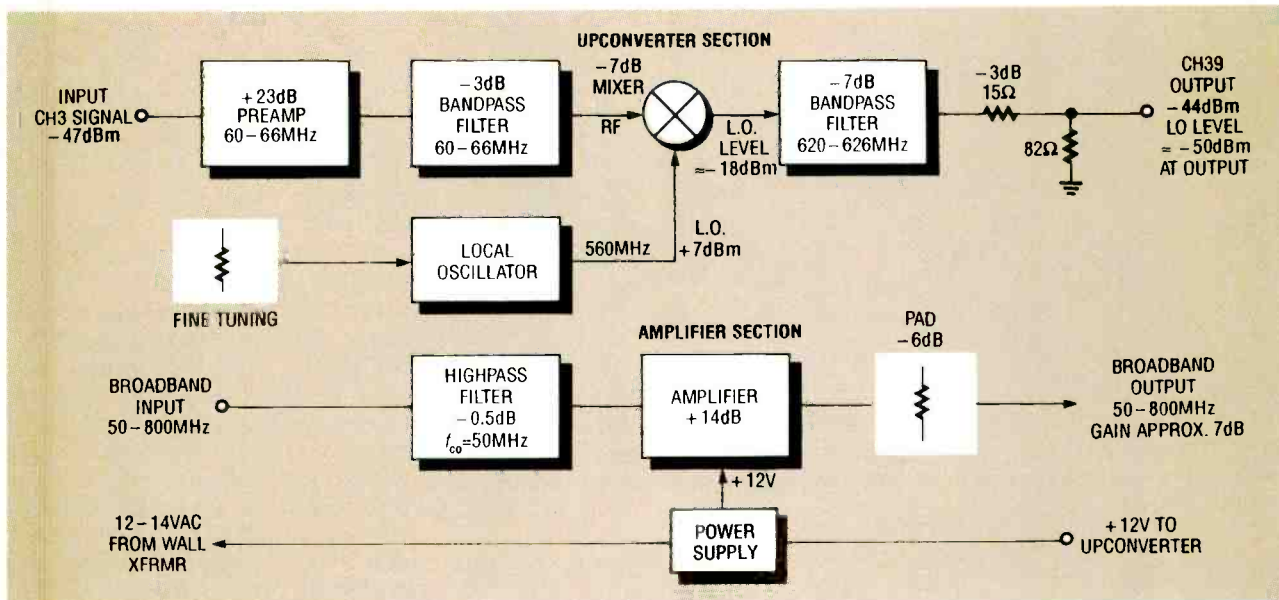

FIG. 2—BLOCK DIAGRAMS of an upconverter module and an amplifier/power supply module.
verter and amplifier modules are shown in Fig. 2. The upconverters consist of a preamplifier operating at 60-66 MHz, with 23-dB gain, and a two-pole bandpass filter between the amplifier and mixer. A double-balanced mixer combines the 60-66 MHz (Channel 3) TV signal with a local oscillator (LO). The LO is set to operate at a frequency 60 MHz below the low end of the desired output signal. For example, to obtain an output on Channel 39 (620-626 MHz), the LO must be at 560 MHz.